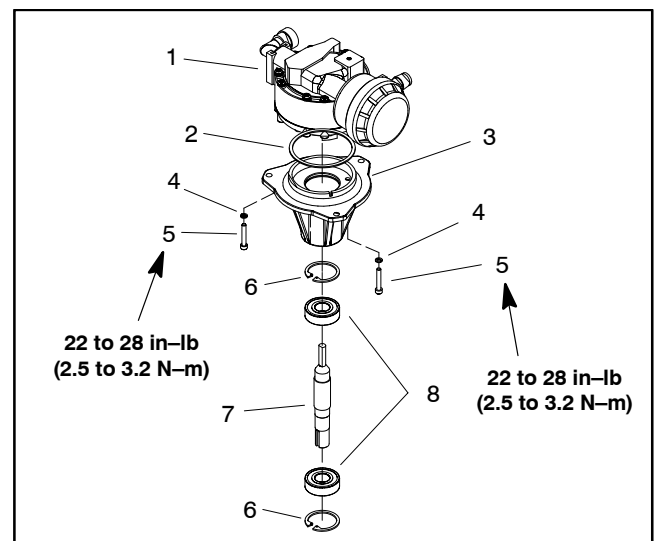

Figure 34
1. Remove two (2) socket head screws and lock washers that secure spray pump to pump drive housing (Fig. 34). Separate spray pump from drive housing.
2. If necessary, disassemble pump drive housing assembly (Fig. 34):